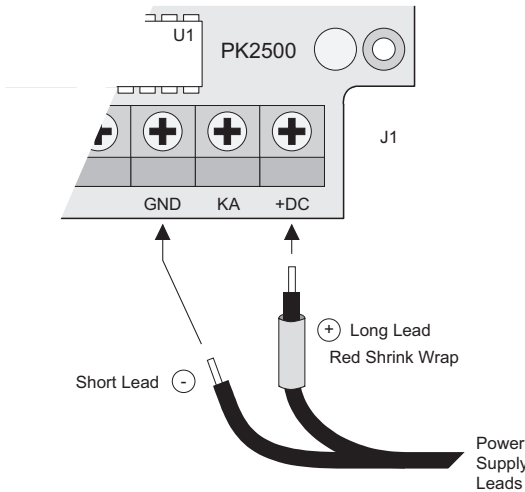

Figure 2-1. Power Supply Connections
1. Connect the power supply to the +DC and GND terminals as shown in Figure 2-1.